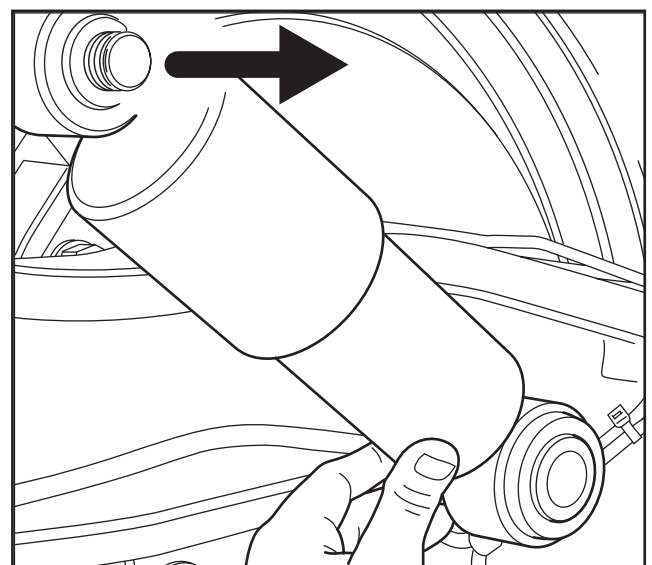

Fig 4.15
3. Remove the damper from the upper mounting bolt (Fig. 4.15).